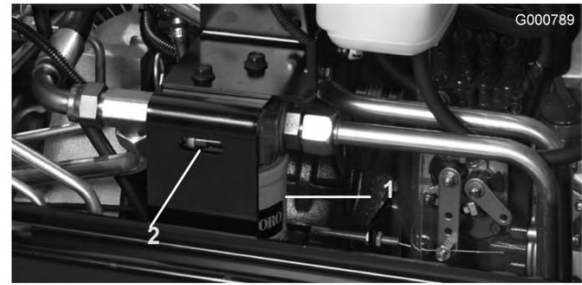

Figure 79
2. Clean area around filter mounting area. Place drain pan under filter and remove filter (Figure 79).